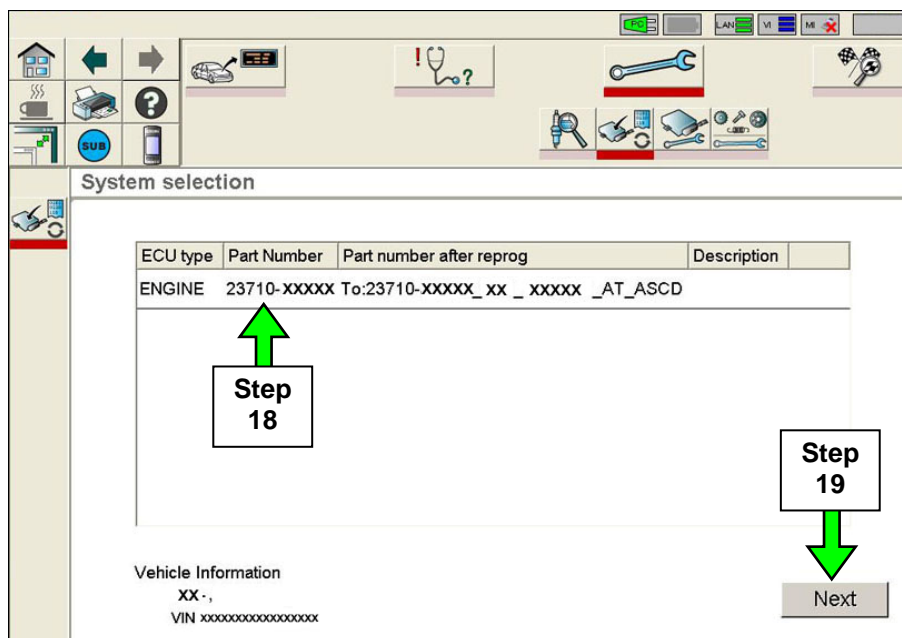

Figure 7
19. Select **Next** (see Figure 7).